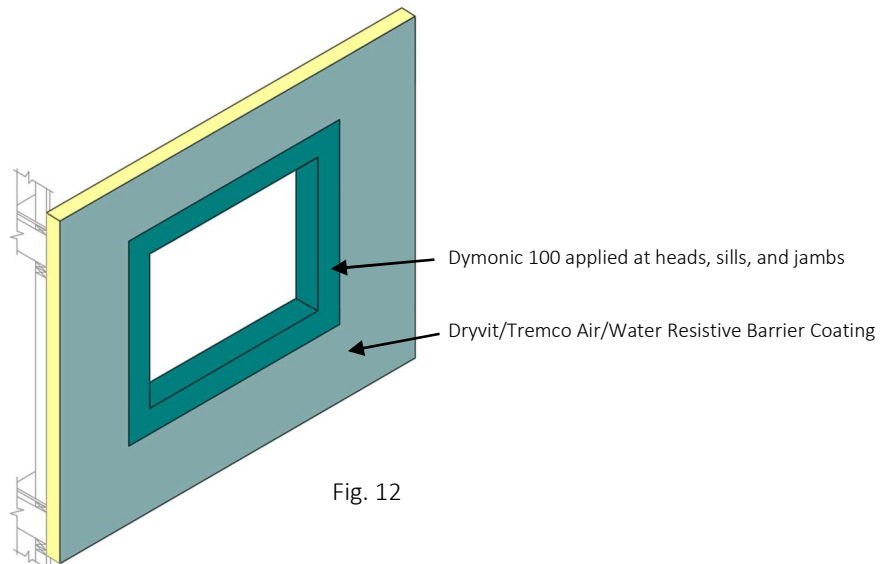

Fig. 12
C. Tremco Dymonic 100 Option – **Figure 12.**